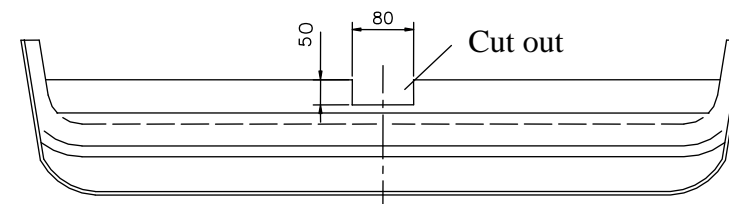

Fig. 2
4. Position the main bar of the towing hitch (pos. 1) to the trunk and fix it with the bracket (pos. 4) through the holes (pos. A) using bolts M10x35mm (pos. 7).
5. Position the sleeves L=58mm (pos. 5) at the bottom of the car, and then fix it through the holes (pos. B) using bolts M10x90mm (pos. 6) and large washers (pos. 8).
6. From the trunk side drill holes $\varnothing 11\text{mm}$ through the towing hitch holes (pos. C) and fix it using bolts M10x35mm (pos. 7) and large washers (pos. 8).
7. Cut the bumper according to fig. 2 and then reassemble it.